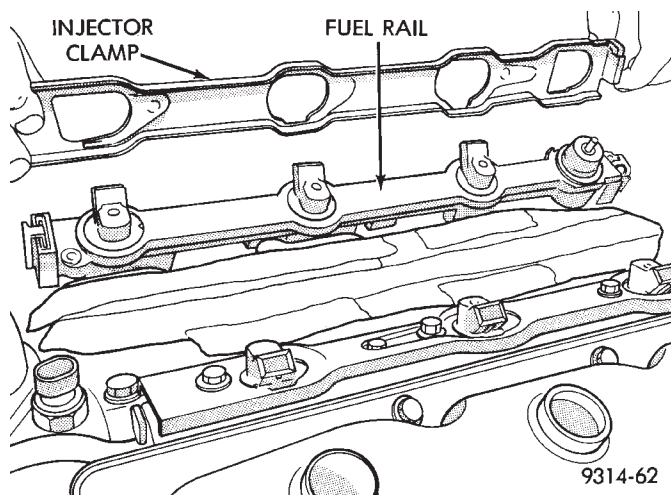

Fig. 41 Injector Clamp—3.5L Engine
(6) If the injector connectors are not tagged with their cylinder number, tag them to identify the correct cylinder.
(7) Remove electrical connector from injectors.
(8) Remove the vacuum tube from the fuel pressure regulator.
(9) Remove fuel rail mounting bolts.
(10) Remove injector clamp screw.
(11) Slide the injector clamp toward the rear of the engine, then lift the clamp off of the rail (Fig. 41).